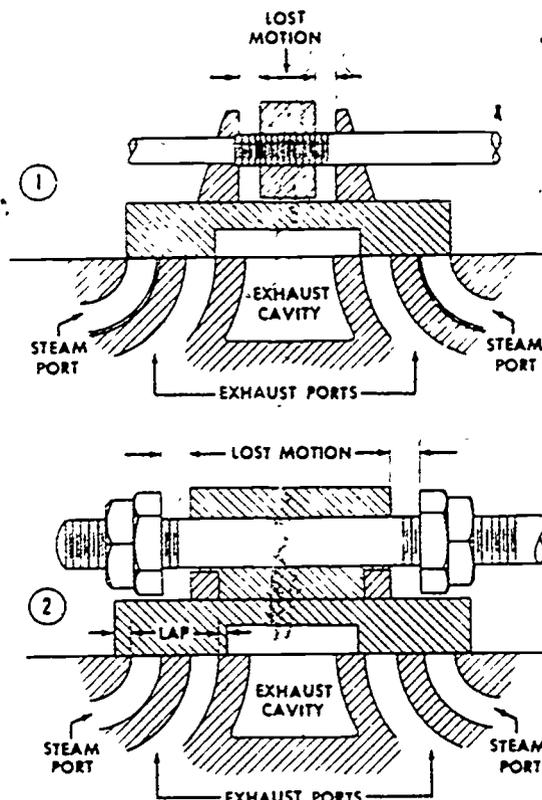

Figure 2-20. Two methods of providing lost motion in a duplex pump slide valve.
Steam end. Each end of a steam cylinder has two steam ports, as shown in figure 2-20. One of these ports admits steam; the other discharges it. The steam trapped in the cylinder when the exhaust stroke nears completion acts as a cushion to prevent the steam piston from striking the cylinder heads. Some pumps have small hand-operated valves on the side of the steam chest. These valves regulate the amount of cushioning by controlling the escape of the steam trapped in the cylinder. Maximum cushioning is obtained with the valves closed.
Lost motion. Lost motion is introduced in the valve gear to keep one piston in motion when the other is reversing at the end of its stroke. Figure 2-20 shows two methods of providing lost motion in a duplex pump slide valve. The valves are not fastened rigidly to the stem. This permits the piston to move during a portion of its stroke without moving
Stroke adjustment. Install a stroke indicator if one is not already present. The indicator may consist of a sheet metal pointer attached to the piston rod crosshead. Two marks are made on the pump frame. One mark lines up with the pointer when the pump is at one end of its full stroke; the other mark indicates the correct position at the opposite end of the stroke. In the absence of specific instructions for stroke adjustment, refer to figures 2-20 and 2-21 and use the following procedure:
- (1) Place piston rod at midstroke position.
- (2) Open valve (steam) chest cover.
- (3) Place slide valve at midposition.
- (4) Set and lock each adjustable collar at an equal distance from the tappet. (This lost motion spacing should be equal to one-half the width of the steam port opening.)
- (5) Start the pump. (If the stroke is too long, reduce the lost motion spacing; if it is too short, increase the spacing. Test with cushion valves wide open and pump operating at very low speed.)
(6) On a pump slide valve designed like that in figure 2-20(1), lost motion can be adjusted by changing the block to one with a different thickness.